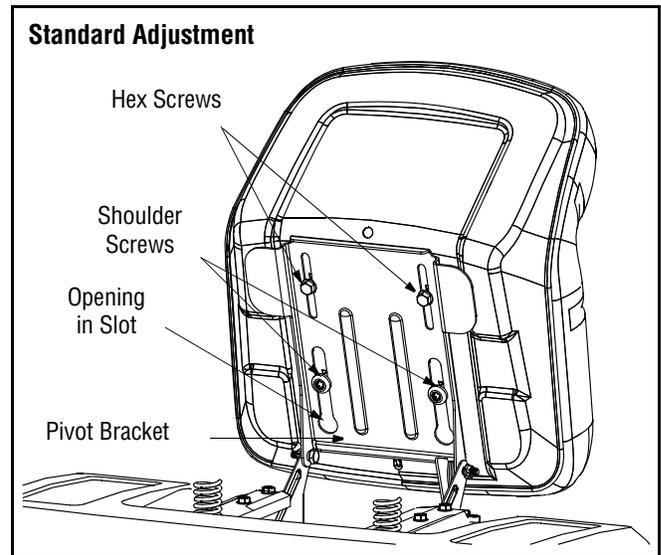
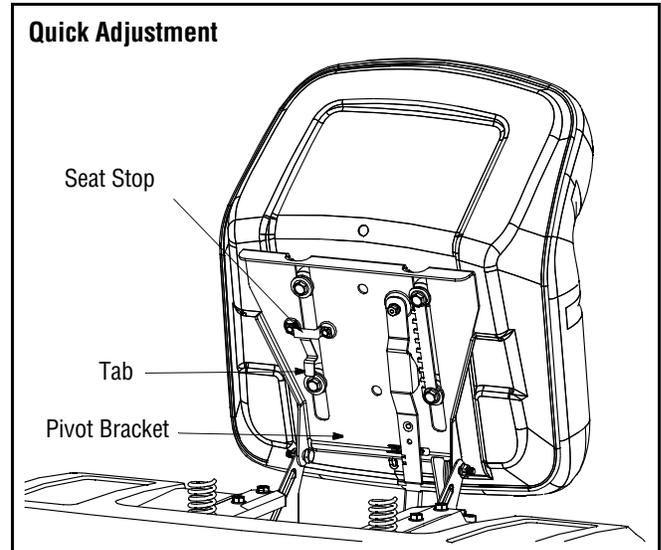

Figure 4
Figure 5
Refer to Figure 4, Figure 5 and Figure 6 to identify your tractor's seat style and follow applicable instructions below.
1. Position the shoulder screws (found on the base of the seat) inside the slot openings in the seat pivot bracket. Figure 4.
3. Select desired position for the seat, and secure with the two hex screws removed earlier. See Figure 4.
**NOTE:** If your seat was shipped mounted backwards on the seat pivot bracket, pull out the tab found on the seat stop and hold it open while sliding the seat off the seat pivot bracket. See Figure 5.
2. Slide seat in until front seat spacer engages the seat stop. See Figure 5.